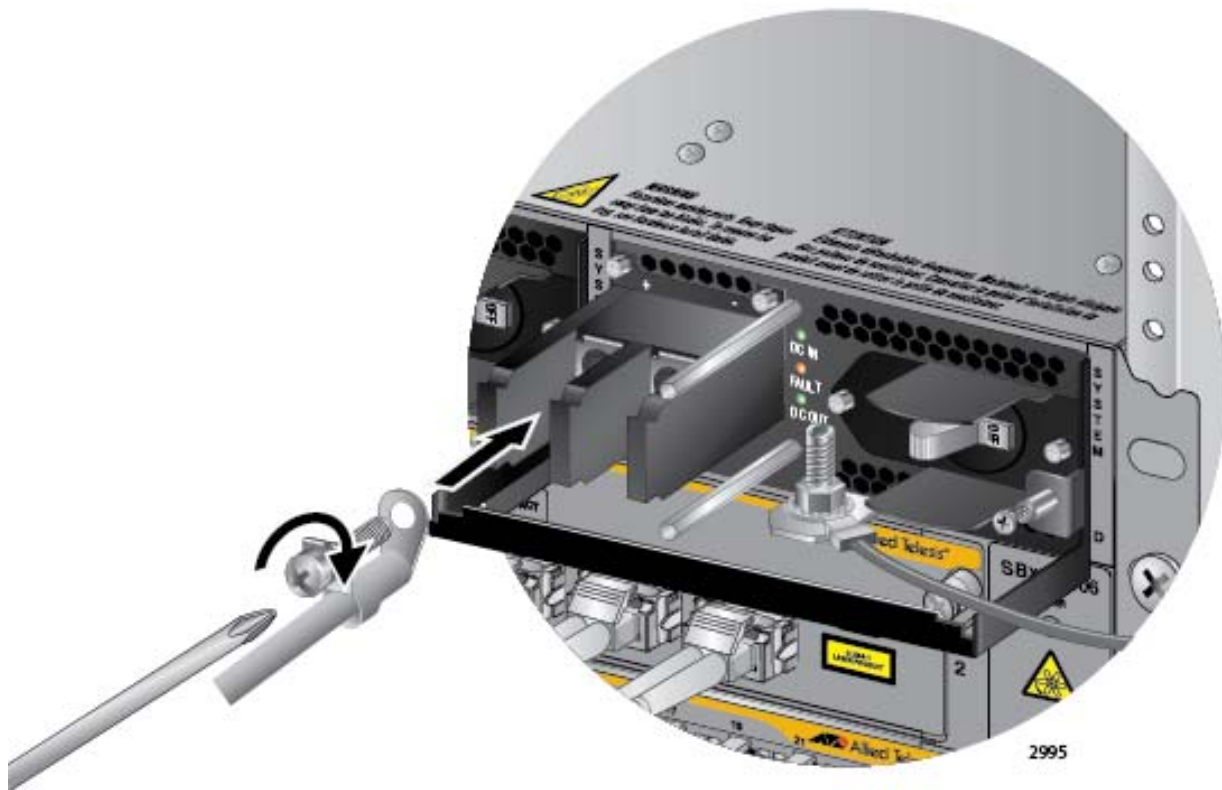

Figure 145. Connecting the Positive (+) Power Wire with a Right Angle Terminal
6. With a #3 Phillips-head screwdriver, connect the positive (+) power lead wire to the positive terminal on the power supply, with one of the terminal screws removed in the previous step. The positive terminal is on the left. Refer to Figure 145 on page 220.